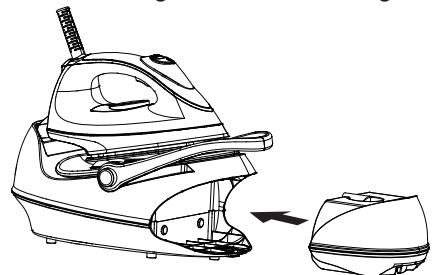

Fig.5
5. Replace the water tank into the base unit again. It will be locked in place with the base unit when a "click" sound is heard. (Water tank indicator light will light up to indicate that water tank and filter have been installed in place. Power will then be ON) Fig.5